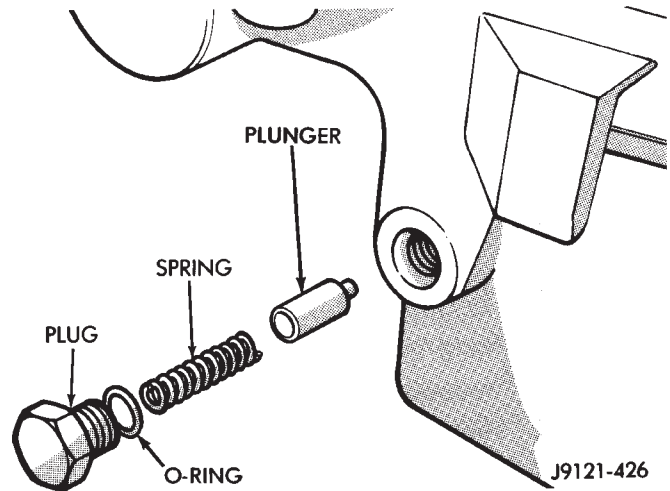

Fig. 26 Detent Component Removal
(1) Remove shift detent plug, spring and pin (Fig. 26).
(2) Remove seal plug from low range fork lockpin access hole. Then move shift sector to align low range fork lockpin with access hole.
(3) Remove range fork lockpin with size number one easy-out tool as follows: